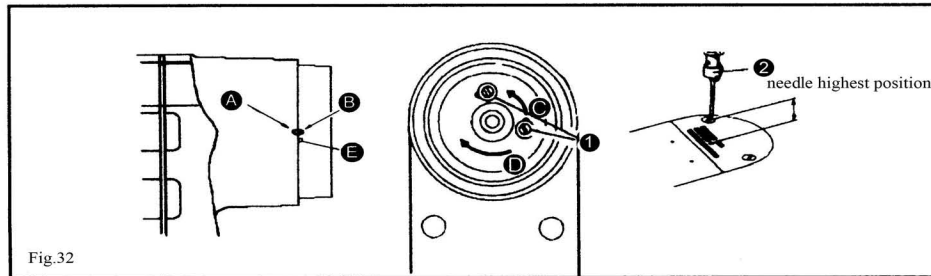

Fig.32
1) When sewing heavy-weight materials, move thread guide ① to the left (in direction A) to increase the length of thread pulled out by the thread take-up.
2) When sewing light-weight materials, move thread guide ① to the right (in direction B) to decrease the length of thread pulled out by the thread take-up.
3) Normally, thread guide ① is positioned in a way that marker line C is aligned with the center of the screw.
26. Adjusting the thread take-up stroke (Fig.32)